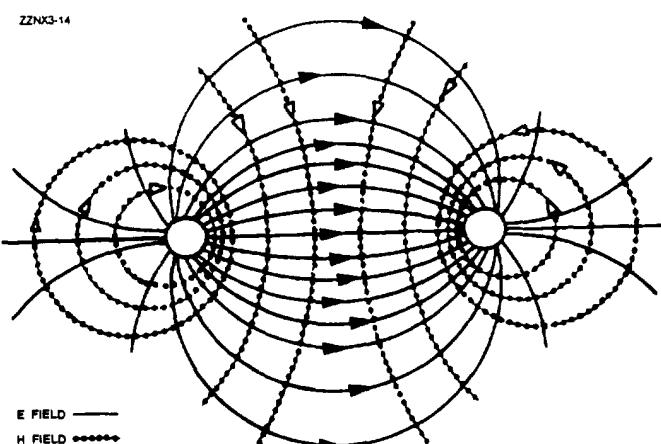

Figure 3-6.—Fields between conductors.
There are two kinds of fields; one is associated with voltage and the other with current. The field associated with voltage is called the ELECTRIC (E) FIELD. It exerts a force on any electric charge placed in it. The field associated with current is called a MAGNETIC (H) FIELD, because it tends to exert a force on any magnetic pole placed in it. Figure 3-6 illustrates the way in which the E fields and H fields tend to orient themselves between conductors of a typical two-wire transmission line. The illustration shows a cross section of the transmission lines. The E field is represented by solid lines and the H field by dotted lines. The arrows indicate the direction of the lines of force. Both fields normally exist together and are spoken of collectively as the electromagnetic field.